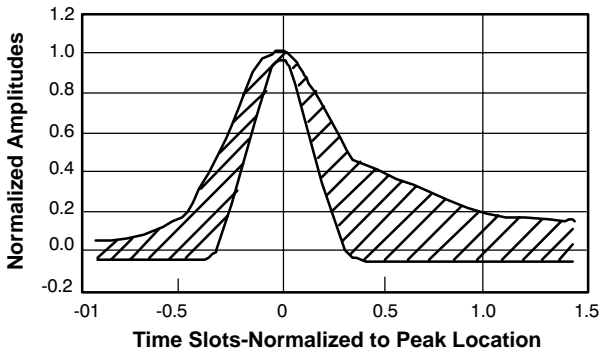
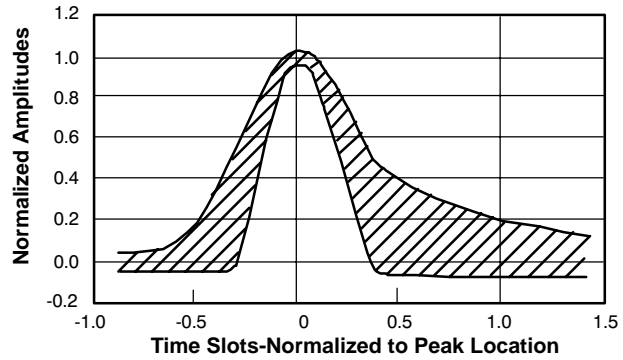

Figure 3. DSX-3 Isolated Pulse Template for ANSI T1.404 Standards
Figure 4. DSX-3 Isolated Pulse Template for Bellcore TR-NWT-000499
Currently, two isolated pulse template requirements exist: the ANSI T1.404 pulse template (*See Table 3 and Figure 3*) and the Bellcore TR-NWT-000499 pulse template. The pulse transmitted by the XRT7296 meets these templates.
Pulse Shape	An isolated pulse must fit the template in Figure 3 or Figure 4 . ¹ The pulse amplitude may be scaled by a constant factor to fit the template. The pulse amplitude must be between 0.36Vpk and 0.85Vpk, measured at the center of the pulse.
- ¹ The pulse template proposed by G.703 standards is shown in *Figure 4* and specified in *Table 4*. The proposed G.703 standards further state that the voltage in a time slot containing a 0 must not exceed ±5% of the peak pulse amplitude, except for the residue of preceding pulses.
Table 3. DSX-3 Pulse Template Boundaries for ANSI T1.404 Standards (See *Figure 3*.)
Table 4. DSX-3 Pulse Template Boundaries for Bellcore TR-NWT-000499 Standards (See *Figure 4*)